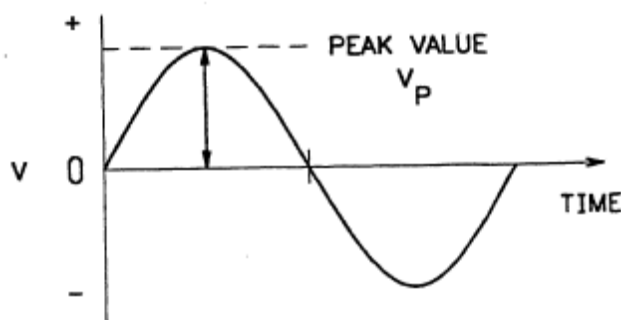

Figure 4 - The peak value of a sine curve
8. **The Peak Value** – The peak value is the maximum value of the voltage or current reached during each half cycle. The voltage rating of any insulation or component must be at least equal to the PEAK value of the a.c. voltage applied to it. A graphical representation of the peak value is shown in Figure 4.